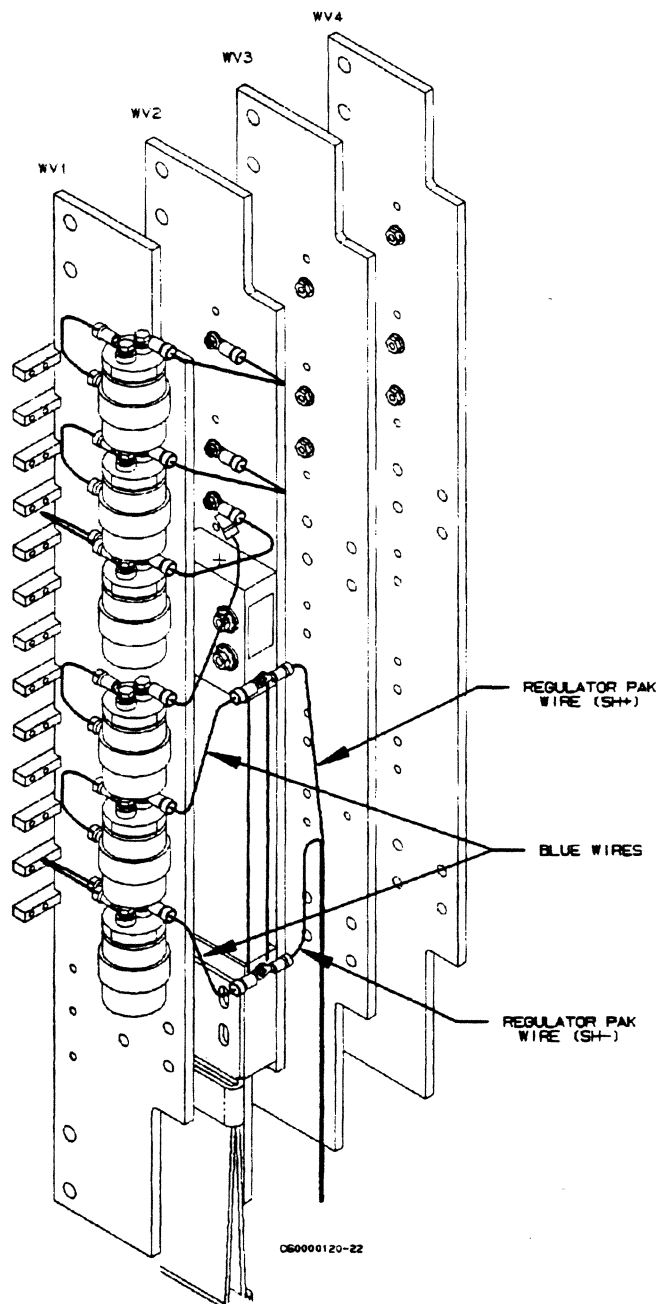

Figure 3-28. Regulator Pak Cable Location
1. Attach blue wires from two bottom capacitors on WV1 and wires from CP-1 Regulator Pak cable to shunt as shown in figure 3-28. Screws are already attached to shunt. Torque to 1.9 N·m (17 lbf·in).